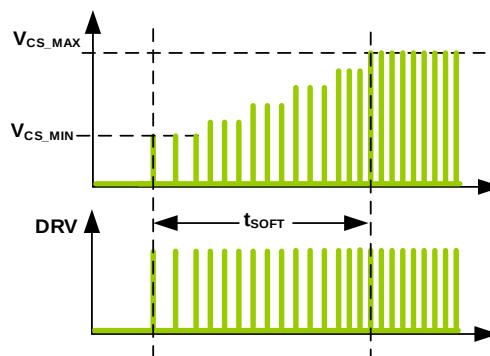

Figure 3: Soft Start
To reduce the stress on power components and smoothly establish V_{OUT} , the HFG611-45 employs soft start (SS). Figure 3 shows the peak current limit gradually increasing from V_{CS_MIN} to the maximum current-sense voltage (V_{CS_MAX}) during start-up, unless the feedback takes over.